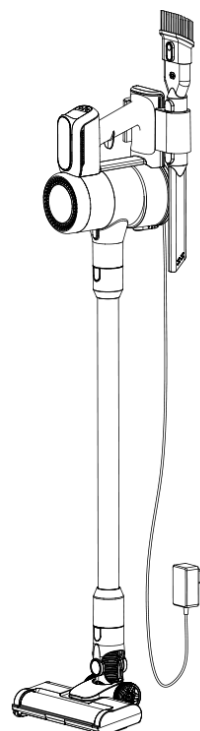

Fig 3.
3. Remove one end of the brush roller first (Figure 3).